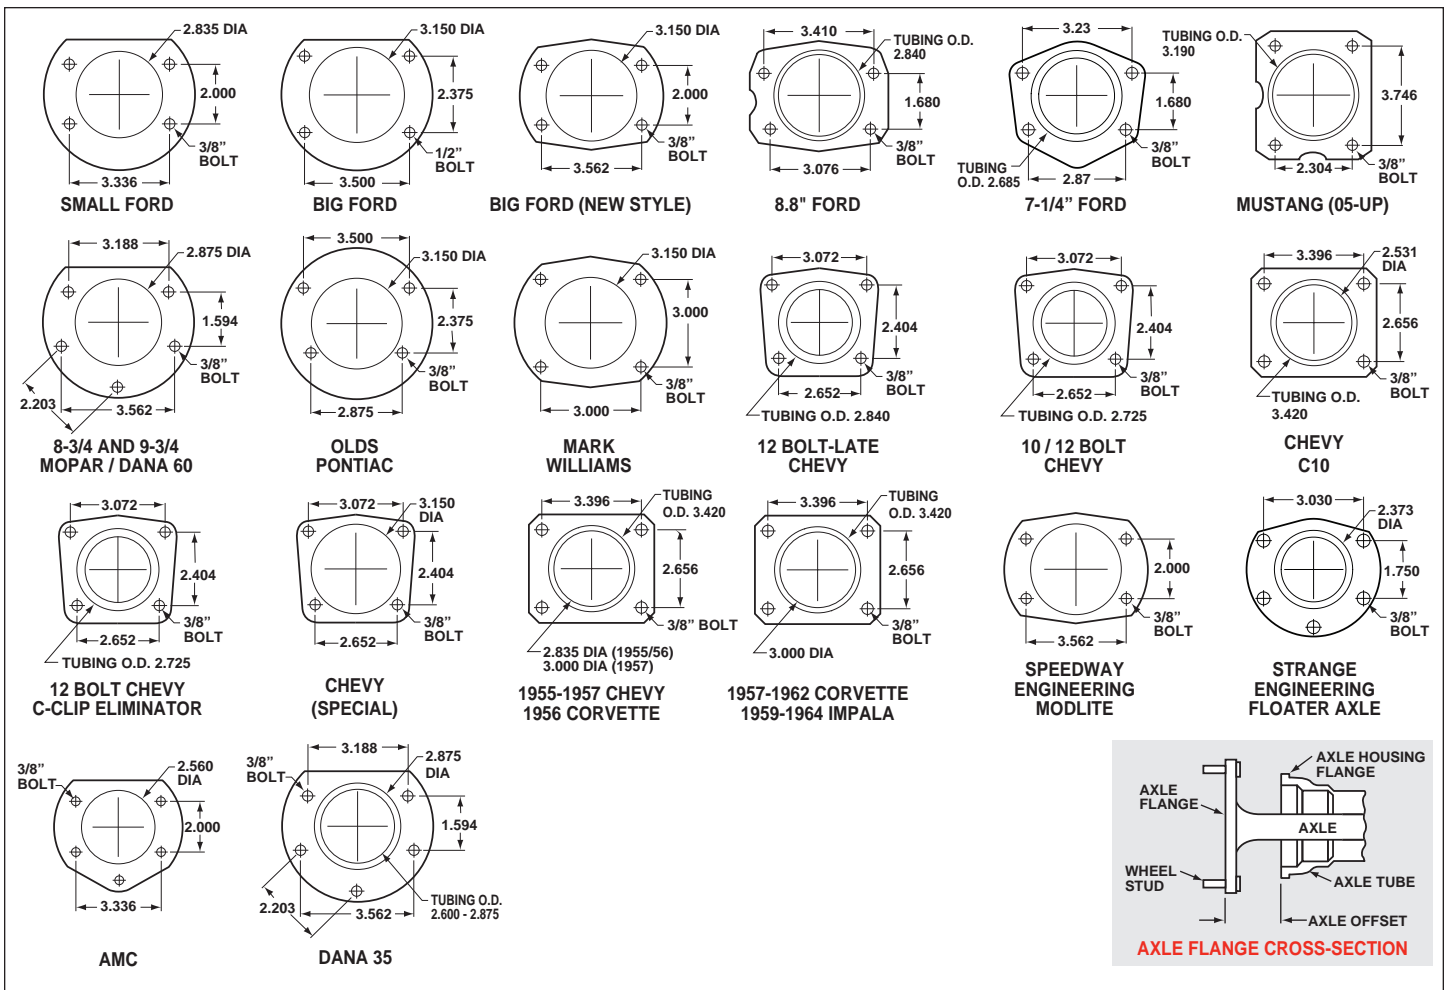

Figure 5. Rear Housing Flange Chart and Axle Flange / Cross-Section
- Make sure this is the correct kit to fit the axle housing flange, not necessarily the rear end make. Many times after market manufacturers put a different make of axle housing flange on the stock rear end housing (see Figure 5). Example; Big Ford rear ends with Olds-Pontiac flanges, therefore, an Olds-Pontiac rear disc brake kit would be the correct kit to order.
- Dimension from wheel side of axle flange to wheel side of axle housing flange (see Figure 5, lower right hand corner). This dimension is critical to ensure proper alignment of the rotor to the caliper, and should match offset given in the kit description.